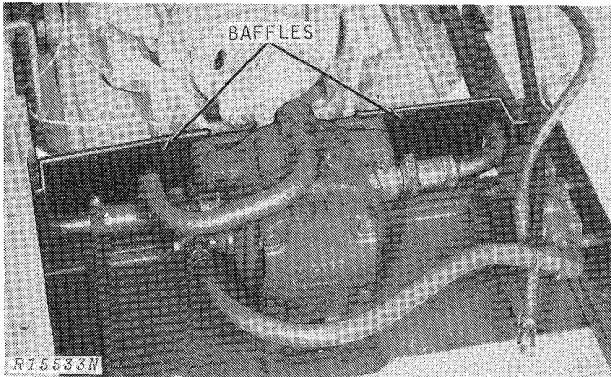

Fig. 6-Radiator Baffles
1. Remove upper and lower radiator hoses. Loosen radiator, tilt forward, and remove engine fan, then radiator. Remove baffles (Fig. 6).